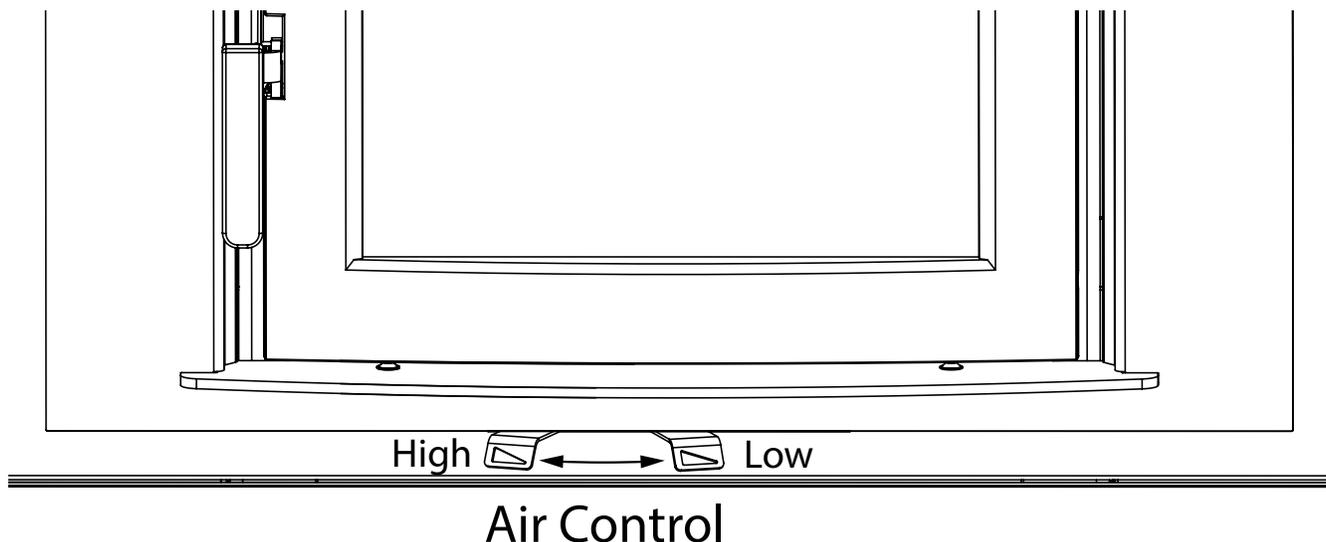

Figure 1: FP16 LE Air Control.
1. Adjust the Air Control, located under the Ash Shelf, all the way to the left to the “High” position.(Figure 1).
1. Set the heat output to a desired setting by moving the Air Control(Figure 1) between the High and Low stops. If smoke pours down across the glass (waterfall effect) this indicates you have shut the control down before the fire was fully established after loading or you are using too low a setting to quickly. The wide control range makes finding the desired setting for your application easy. Every home's heating needs vary due to insulation, drafts, climate, etc.) the proper setting can only be found by trial and error and should be noted for future burns.
2. To refuel, adjust the Air Control(Figure 1) to the "High" position (all the way to the left), and give the fire time to brighten. Open the door slowly, this will prevent backpuffing or the flame rolling out of the door opening.